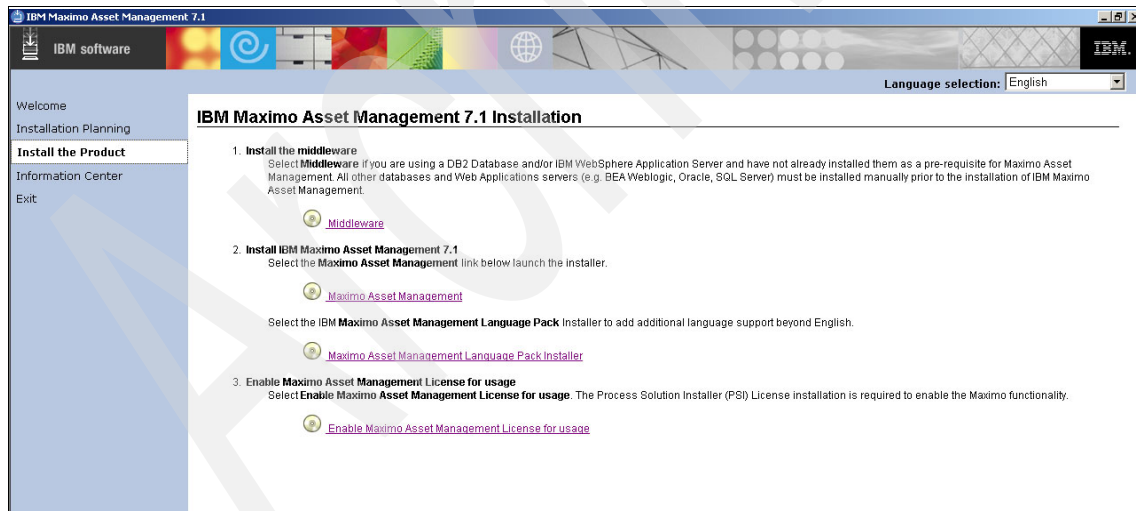

Figure 5-27 Enable Maximo Asset Management license
1. From the launchpad, launch the Process Solution installation program by clicking the **3. Enable Maximo Asset Management License for usage** link (see Figure 5-27). The Process Solution Installation Install Anywhere Installer executes on the Maximo administrative workstation. The launch script is deployed and configured by the Maximo Asset Management installation program.